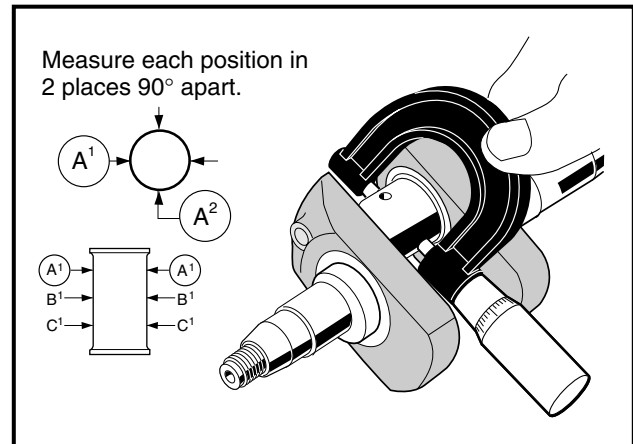

Figure 2-79 Measure Connecting Rod Journal
3. Use a micrometer to measure connecting rod journal at several points along its length (**Figure 2-79, Page 2-35**).